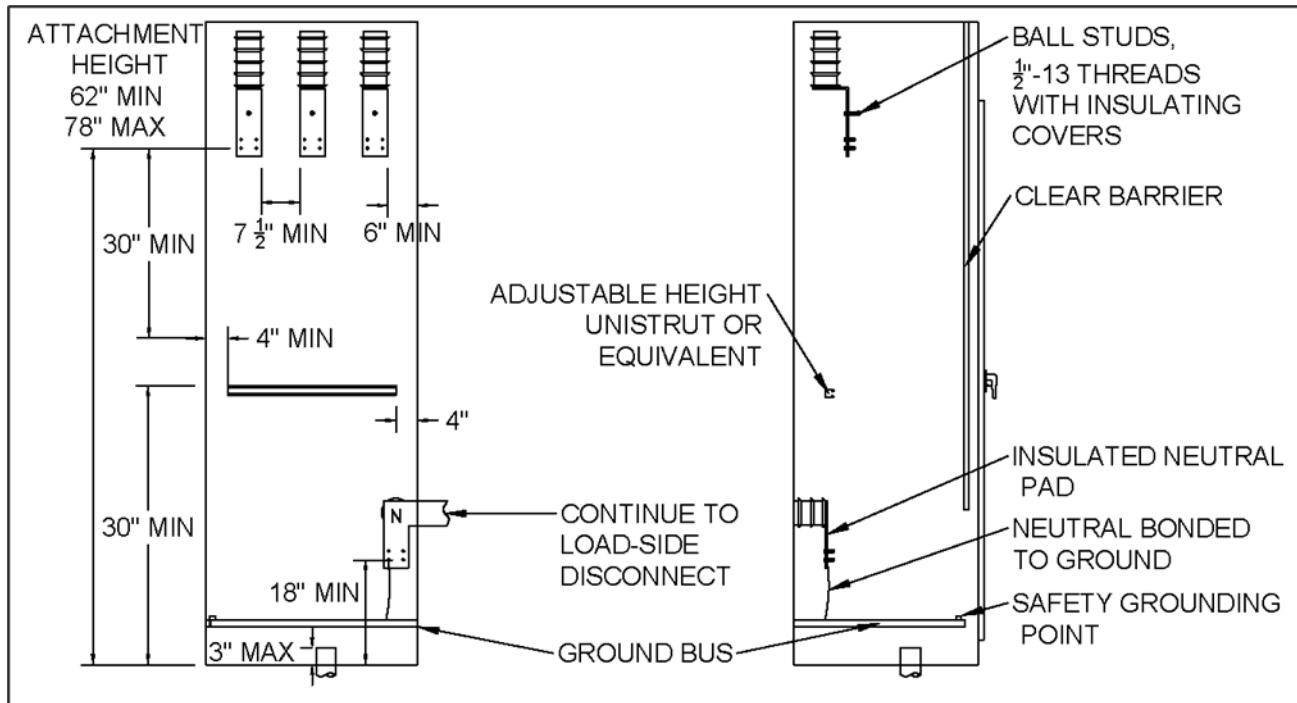
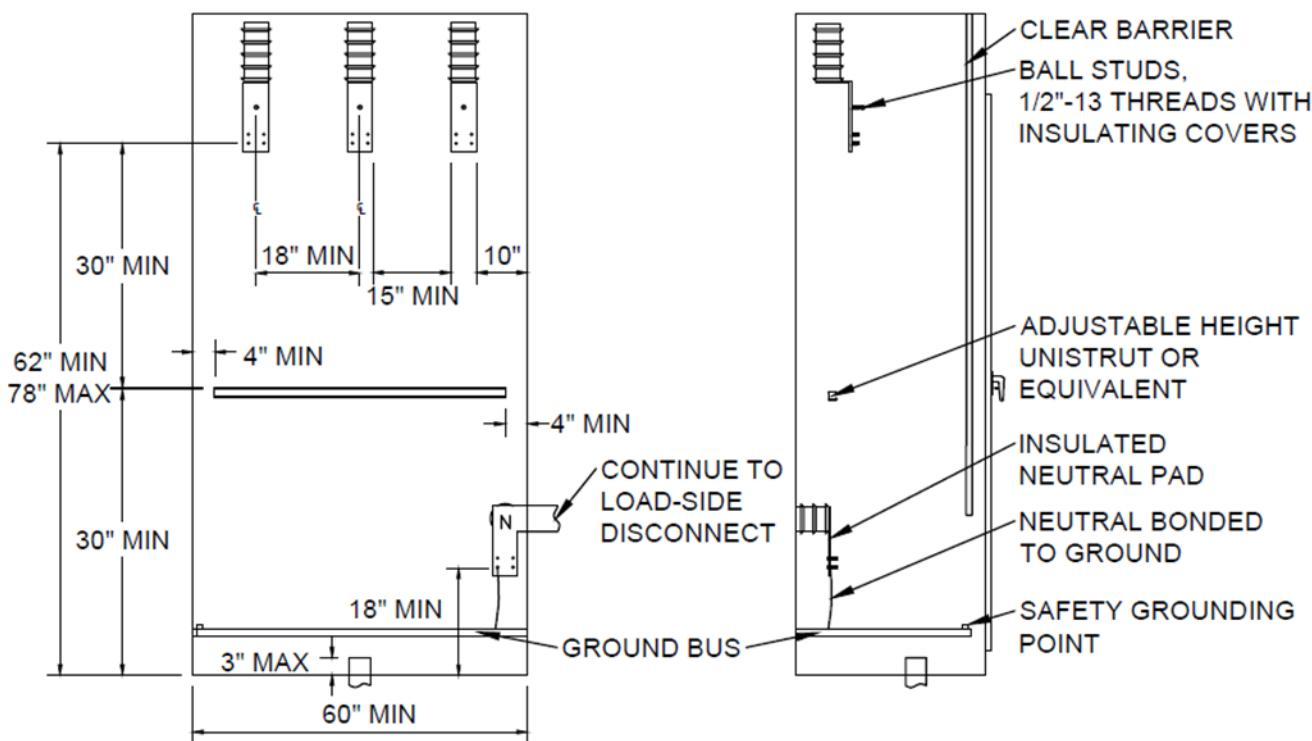

Figure 10. Termination Compartment Clearances for 12.47 kV (STD-M-3301)
Figure 11. Termination Compartment Clearances for 34.5 kV (STD-M-3601)
- Between the termination lugs and the access door. This barrier must be hinged to allow unobstructed access to the terminations, as shown in Figure 10.
- A minimum 0.25-inch clear polycarbonate insulating barrier is required between the termination lugs and the access door. Polycarbonate (such as Lexan or Makrolon) is required to be electrically insulative, transparent, and meet applicable codes (NEC, UL). This barrier must be hinged to allow unobstructed access to the terminations as shown in Figure 10 and Figure 11.
For services up to 12.47 kV, the termination section must meet the requirements defined in EUSERC 418, as well as those shown in Figure 10 and the following:
For 34.5 kV services, the termination section must meet PGE's requirements, as shown in Figure 11 and listed below.